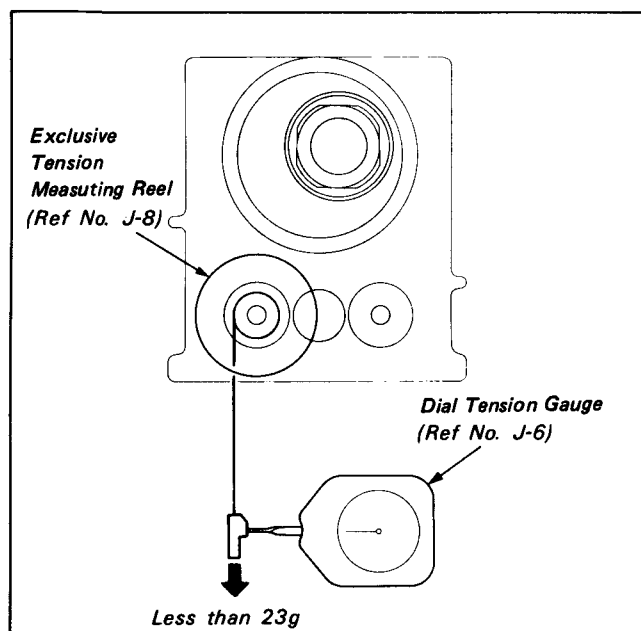

Fig. 8-60.
- 3) Pull the dial tension gauge (Ref. No. J-6) toward the arrow and check that the value satisfies the required value. (See Fig. 8-60 and 61.)